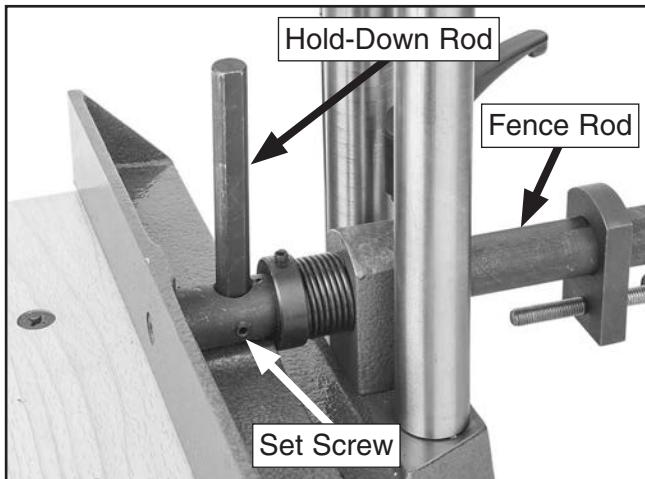

Figure 13. Hold-down rod secured with set screw.
8. Install hold-down rod in recess in fence rod. Secure by tightening M6-1 x 12 set screw (see **Figure 13**).